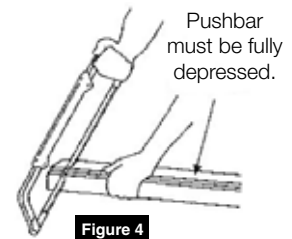

Figure 4
3. Fully depress bar and cut off square on mark. (Figure 4)